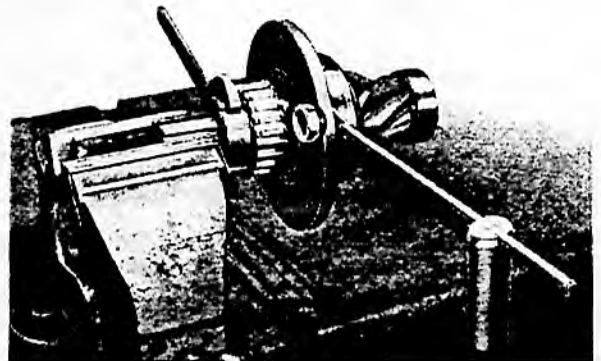

FIG. 16 SETTING DRIVING PINION BEARING PRE-LOAD
4. With assembly mounted as shown in Fig. 16, tighten locknut until torque loading of 18-22 lb. in. (.21-.25 kg.m.) is required to turn shaft.